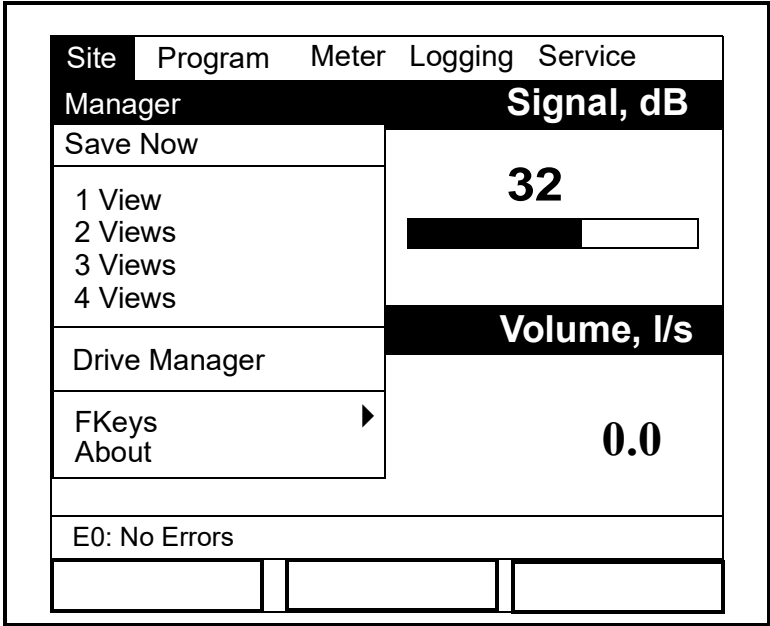
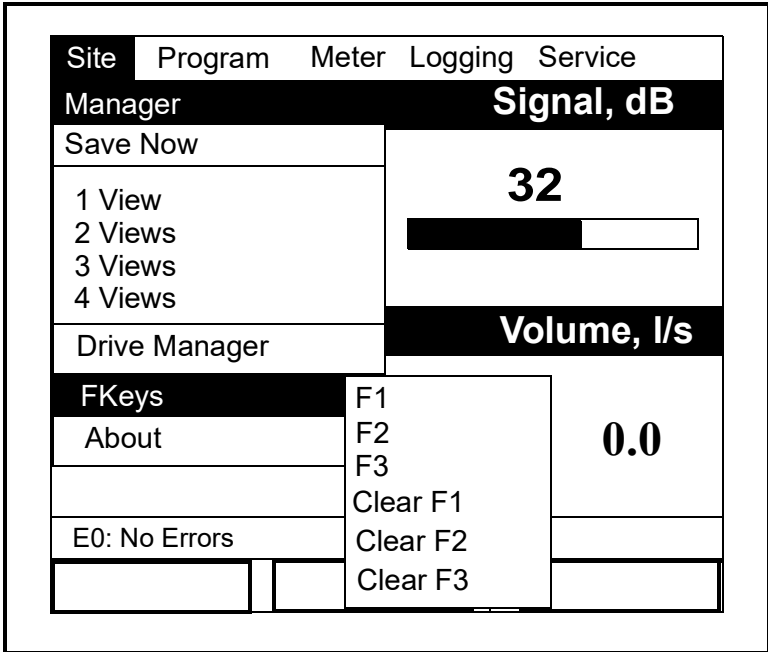

Figure 91: The Site Menu
Figure 93: The FKeys Menu
To enter the Site Menu, press the [MENU] key at the lower right of the PT878GC keypad. The Menu Bar replaces the Status Bar at the top of the screen. The Site Menu will be highlighted in the upper left corner. Press [ENTER] or the [▼] arrow key. The screen now appears similar to Figure 91 below. While following the programming instructions, refer to Figure A-2 on page A-2 of Appendix A, *Menu Maps*.
2. From the Site Menu (shown in Figure 91 above), use the **[▼]** or **[▲]** arrow keys to move to the desired number of views (1 View, 2 Views, etc.) Press **[ENTER]**.
- From the Site Menu (shown in Figure 91), use the [▼] or [▲] arrow keys to move to the FKeys entry on the menu. Press [ENTER]. The screen now appears similar to Figure 93 below.
2. From the Site Menu (shown in Figure 91), use the **[▼]** or **[▲]** arrow keys to move to the FKeys entry on the menu. Press **[ENTER]**. The screen now appears similar to Figure 93.